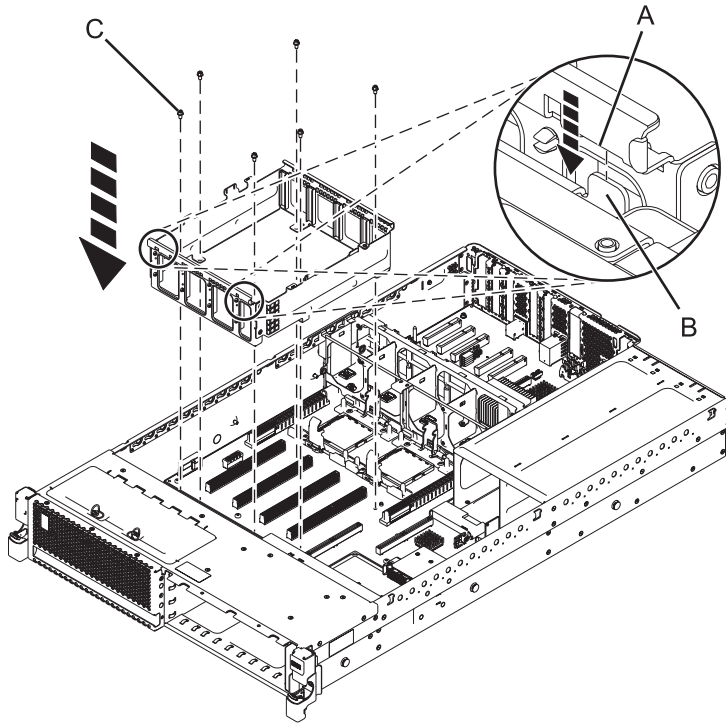

Figure 55. Replacing the DIMM cage
- a. Lower the DIMM cage into position ensuring that the DIMM cage alignment mark (A) and the alignment guide (B) are aligned. See Figure 55 on page 65.
- b. Insert and tighten the six screws (C) that secure the DIMM cage.